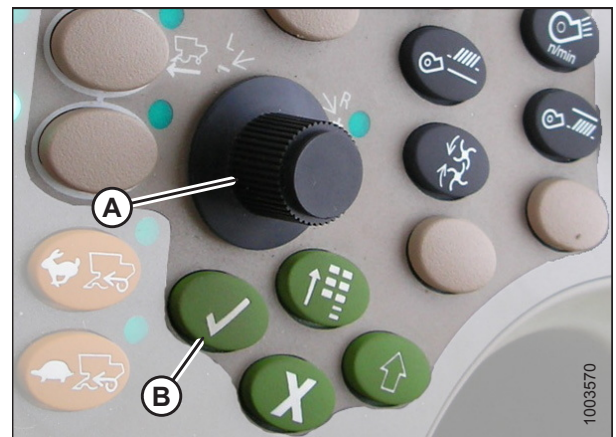

Figure 3.267: John Deere Combine Control Console
7. Select HEADER in box (A) by scrolling down to the box using the scroll knob, and then pressing the check mark button (knob and button are shown in Figure 3.267, page 175).
8. Scroll down to the lower right icon that resembles an arrow in a diamond (B) and press the check mark button to select it.